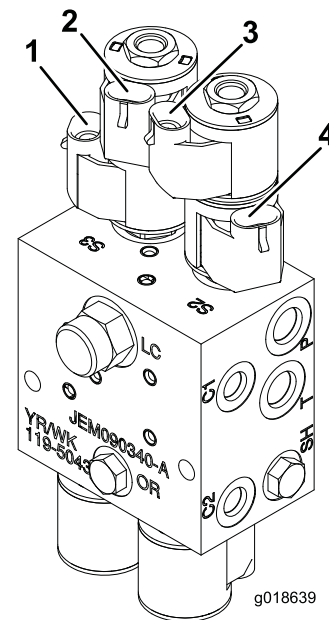

Figure 19
8. Connect the Left Boom/Up; Left Boom/Down connectors on the wire harness to the solenoid valves on the hydraulic block (Figure 19).